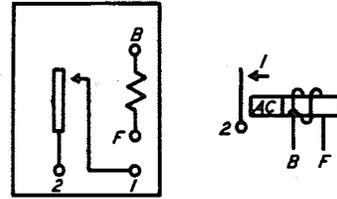

FIG. 10-WINDING AND SPRING TERMINAL ARRANGEMENT AS VIEWED FROM THE FRONT (CONTACT SIDE)-85 TYPE RELAY
2.30 The front contact spring is indicated by 1 and the armature by 2. On those relays having two contact springs, the front contact spring is indicated by 1 and the spring that rests on the armature stud is indicated by 2. The relative location of the winding and contact terminals and typical designations are shown on Fig. 10.